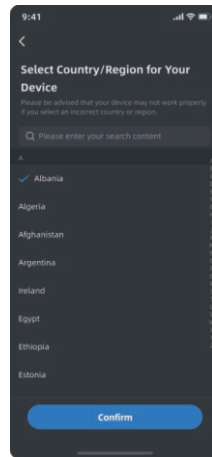

Figure 2
- 2)Figure 2: Select the country/region where the device will be used and click **"Confirm"**.